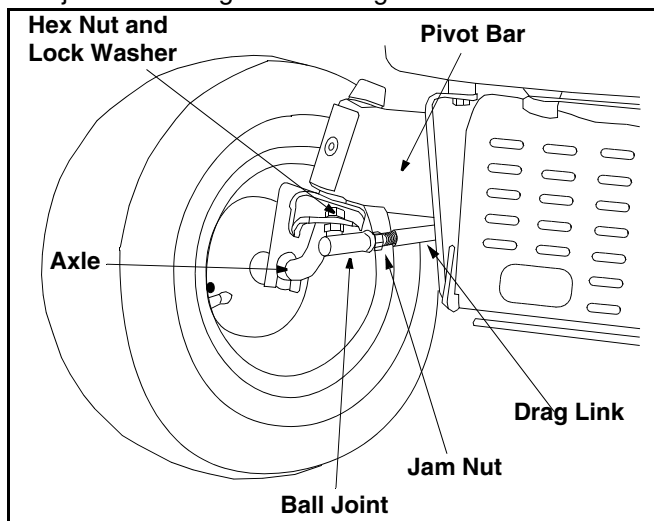

Figure 21
- Loosen the jam nut found on the drag link at the rear of the ball joint. See Figure 21.
- Remove the hex nut and lock washer on the top of ball joint. See Figure 21.